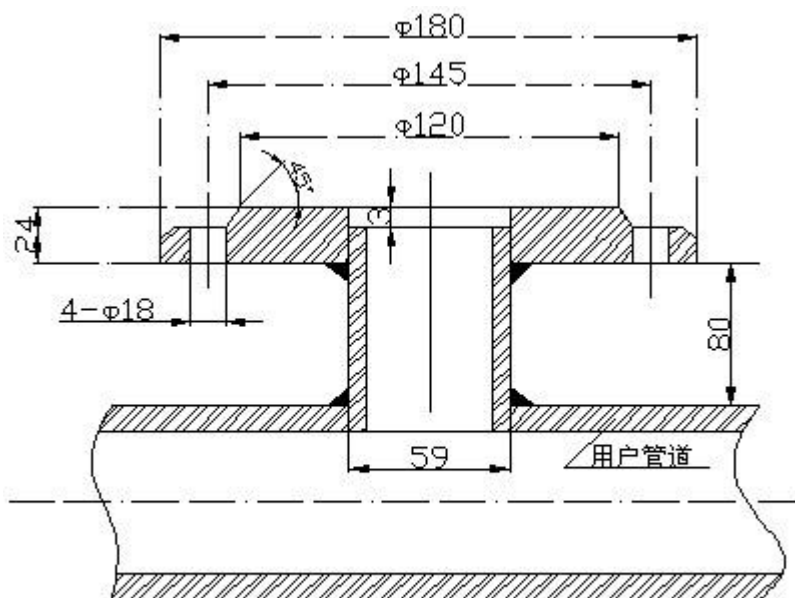

图3 安装底座的焊接
The welding of the installation base and the tested pipeline is shown in Figure 3. The technical requirements for welding are as follows:
6.4.3 Install the DN50 ball valve on the mounting base as shown in Figure 3. Note that the long cavity of the ball valve faces upward. Check whether the ball valve can be fully opened and closed. If there is any problem, repair it. Install the compression threaded seat, compression nut and rubber sealing ring on the ball valve. Loosen the positioning screw and the compression nut, and insert the sensor insertion rod into the pipe under test through the ball valve. The insertion depth is calculated by 6.4.4 and measured by a vernier caliper or a steel tape measure. After meeting the requirements, tighten the compression nut and the positioning screw. At the same time, note that the direction of the sensor direction indicator rod should be consistent with the fluid flow direction.